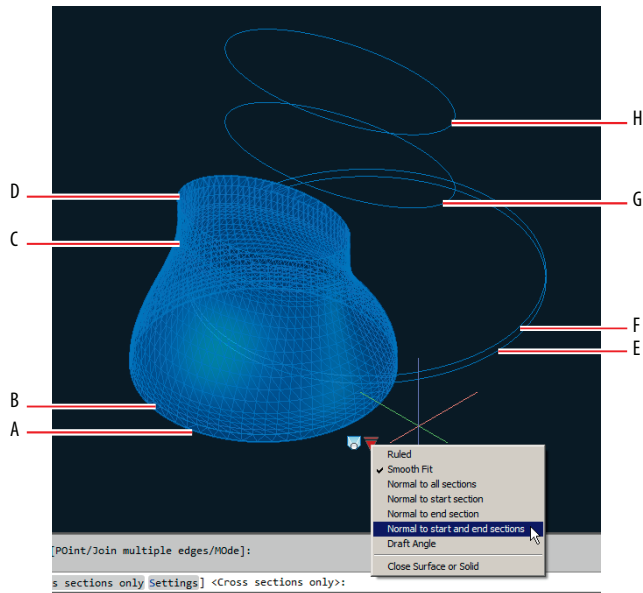
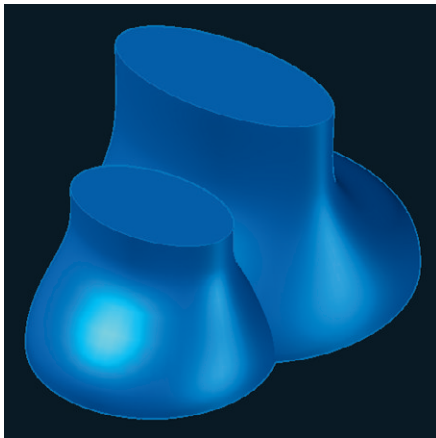

FIGURE 17.20 Lofting one of the two ventilation towers
FIGURE 17.21 Lofted ventilation towers
3. Zoom in on the collection of blue circles and ellipses. Select the Loft tool from the drop-down menu under Sweep on the Solid panel, and press Enter. Select profiles A, B, C, and D shown in Figure 17.20, and press Enter twice. Select the loft object, open the grip menu that appears, choose Normal To Start And End Sections, and press Esc.
4. Press the spacebar to repeat the LOFT command. Select profiles E, F, G, and H, shown in Figure 17.20, and press Enter twice. Select the new loft object, open the grip menu that appears, choose Normal To Start And End Sections, and press Esc. Figure 17.21 shows the result.